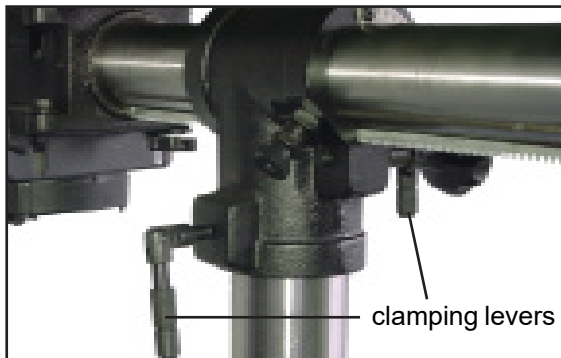

Figure 5
3. Attach the 2 clamping levers (part #30B) on the drill press column guide (part #18B). (Fig. 5)